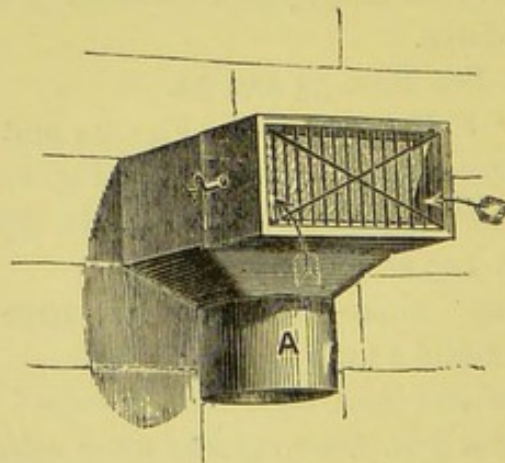
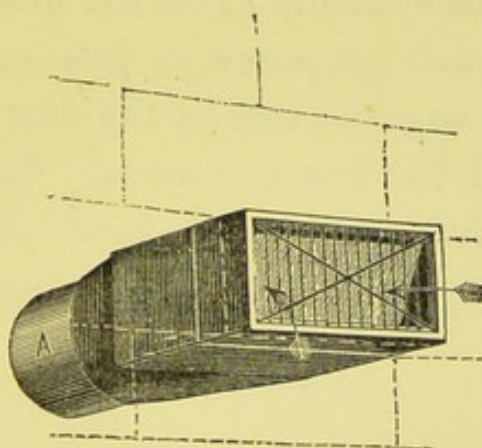

FIG. 116.—View of "Mica-valve"—Vertical.
FIG. 117.—View of "Mica-valve"—Horizontal.
Fig. 116 shows a *perspective view* of a "*mica-valve*" for fixing on the top of a *vertical* induct-pipe, and Fig. 117 shows a view of one for fixing on the end of a *horizontal* air induct-pipe. They are made in various sizes, to fit pipes from 2 in. to 4½ in. diameter.
F.—*Foot ventilation.*—This is an air induct-pipe for the admission of fresh air into foot of the soil-pipe, with a mica-valve over its mouth to prevent any vitiated air coming out at this point.—See Fig. 116, p. 262.